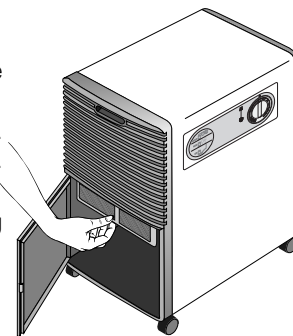

Fig. 4
- To remove the filter, open the canister access panel, remove the canister and remove the filter by pulling downwards (fig. 4).